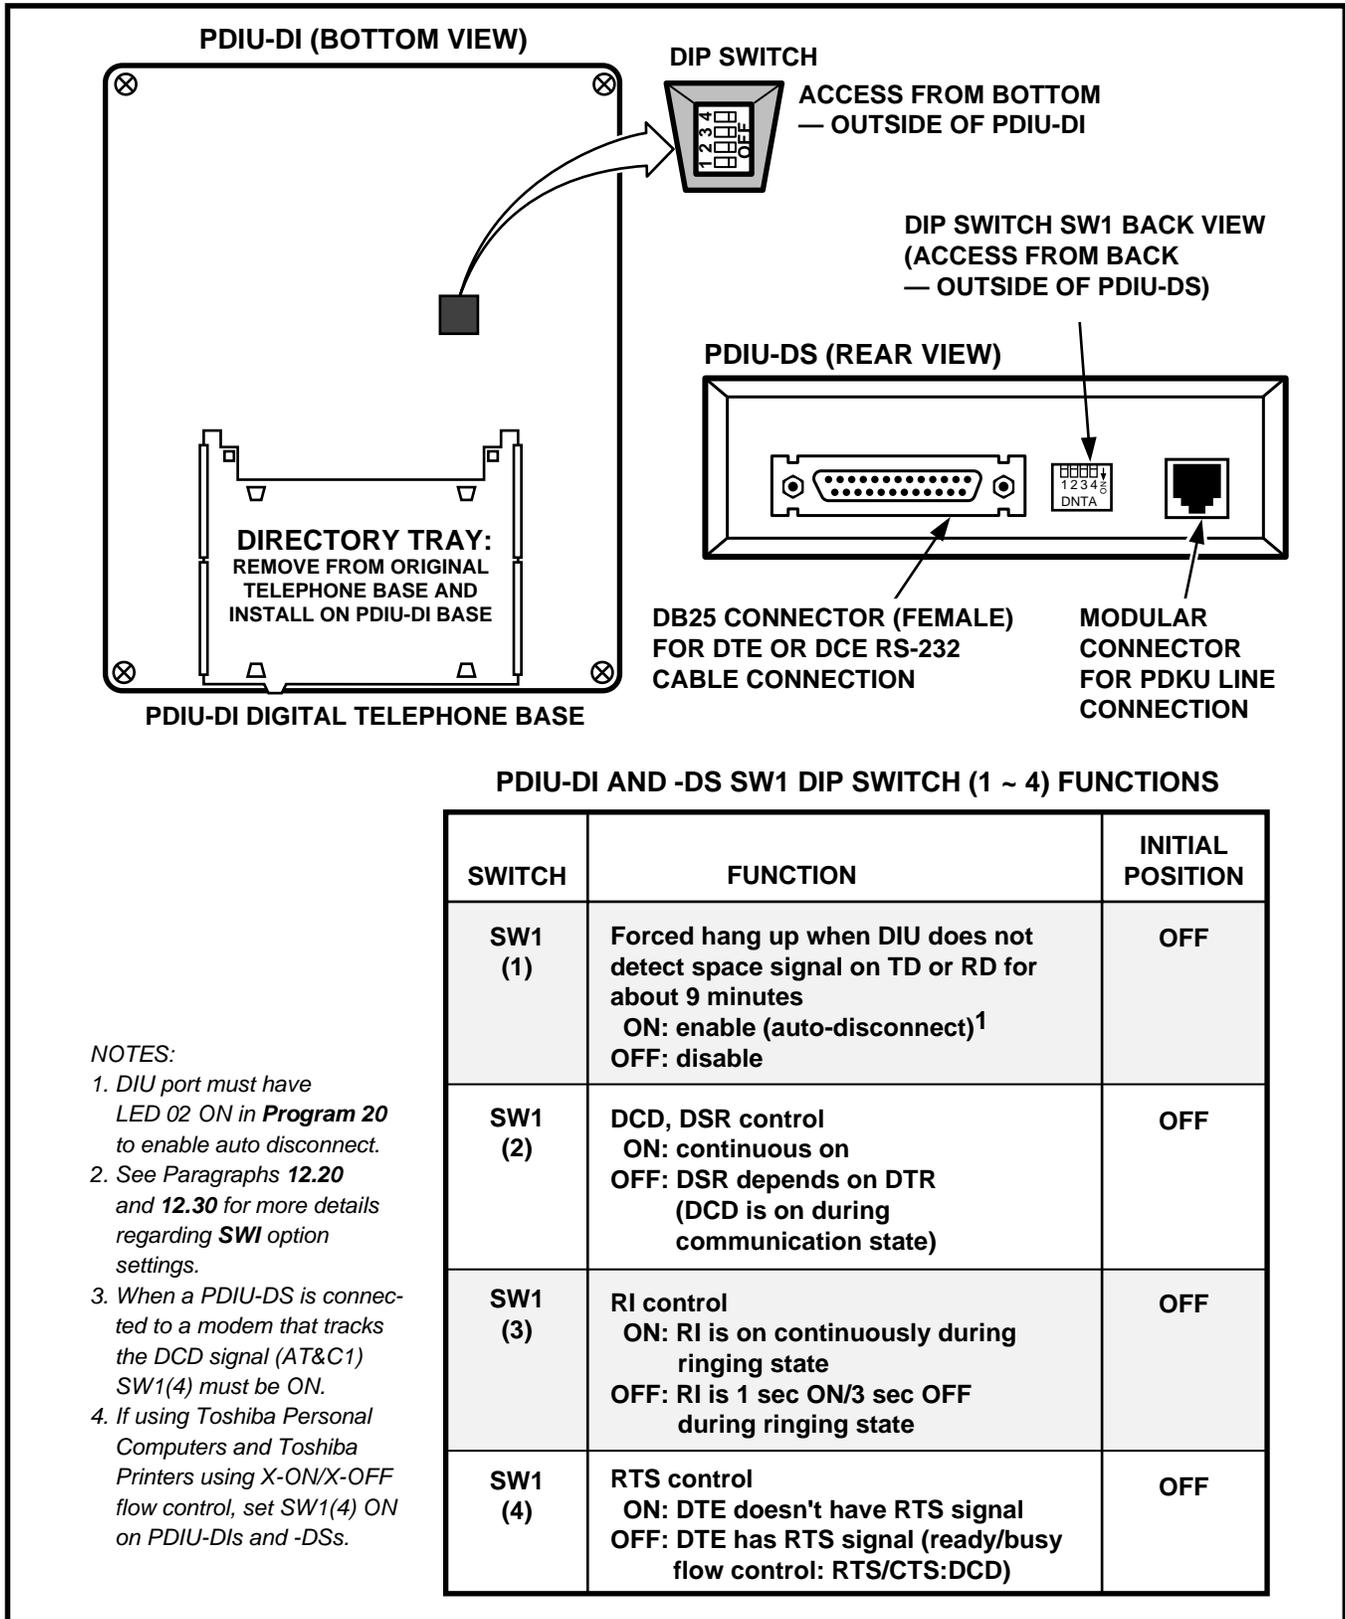

FIGURE 8-36
- **Data Set Ready (DSR, Pin 6):** When connected to the communication channel and prepared to exchange control characters to initiate data transmission, the DCE device sends the DSR signal (EIA circuit CC) to the DTE device. If the PDIU DIP switch **SW1-2** is set ON, DSR will be ON continuously; if the switch is set OFF, DSR follows DTR (if DSR is ON, DTR is ON, etc.) **SW1-2** should be OFF in most cases (see Figure 8-36 for DIP switch information).
- **Data Carrier Detect (DCD, Pin 8):** The DCE device sends the DCD signal (DCD, Pin 8) when receiving the carrier signal on the line side. Before transmitting or receiving data, most DTE devices require that the DCD be ON. If the carrier signal is removed by the remote end or lost due to a fault condition on the line, the DCE notifies the DTE device by an OFF condition with the DCD signal; PDIU DIP switch **SW1-2** is set ON to set the DCD ON continuously; if set OFF, the DCD signal will only be ON when connection between two DIUs is established and OFF when a connection is not established. **SW1-2** is set OFF when the DTE/DCE uses the DTR/DSR signals for Ready/Busy flow control (see Figure 8-36 for DIP switch information).
transmit or receive data. DIP switch **SW1-2** should be set OFF in most cases (see Figure 8-36 for DIP switch information).
- 4) Set the PDIU-DI DIP switch (**SW1-1 ~ 4**) for the desired application. Figure 8-36 shows the DIP switch locations and Paragraph 12.30 describes switch functions.
- 5) Set the PDIU-DS DIP switch (**SW1-1 ~ 4**) for the desired application. Figure 8-36 shows the DIP switch locations and Paragraph **12.30** describes switch functions.
- 5) Set the PDIU-DS DIP switch (**SW1-1 ~ 4**) for the desired application. Figure 8-36 shows the DIP switch location and Paragraph **12.30** describes switch functions. SW1-2 should be OFF when PDIU-DS is connected to a modem.